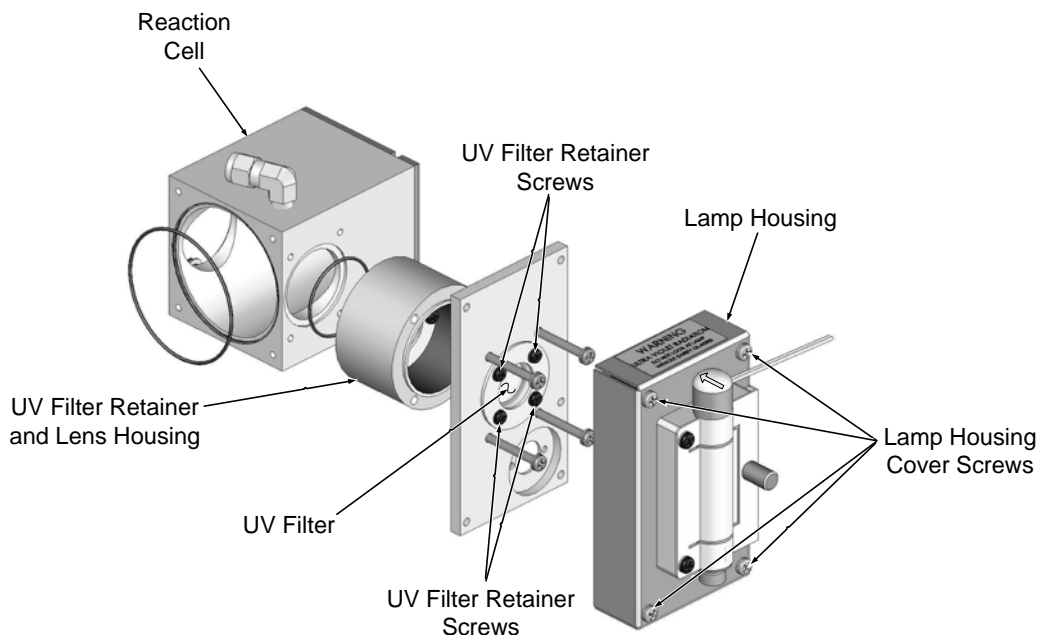

Figure 8-2: Disassembling the Sample Chamber/UV Source Assembly
3. Loosen, but do not remove the two UV lamp bracket screws, and the large brass thumbscrew located on the shutter housing (see Figure 8-2) so that the lamp can be moved.
Do not grasp the UV lamp by its cap when changing its position (see Figure 8-2). Always grasp the main body of the lamp. Inattention to this detail could twist and potentially disconnect the lamp’s power supply wires.
3. Remove 4 screws from the lamp housing cover (see Figure 8-2) and remove the cover .